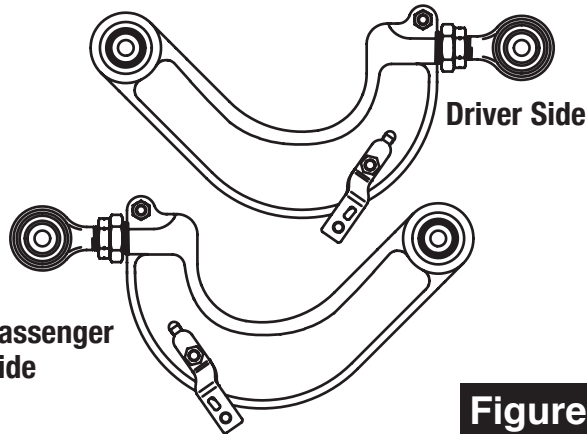

Figure 2
10. Install ride height sensor mounting bracket onto SPC control arm using provided hardware, see **Figure 2**. Torque bracket-to-arm mounting hardware to **25 ft-lb [34 Nm]**.